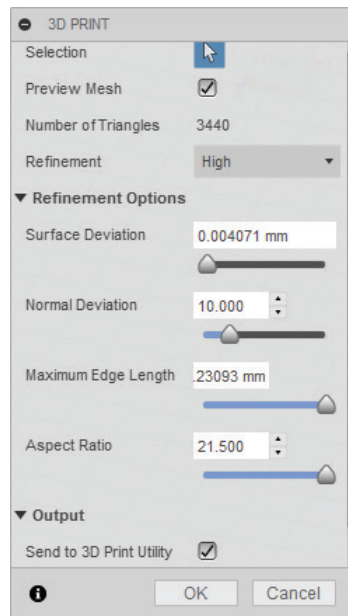

Figure-38. Refinement
- Select the desired level of resolution for printing in **Refinement** drop-down menu. There are four resolution in this drop-down. If you select the **High**, **Low**, and **Medium** command then the **Surface deviation**, **Normal deviation**, **Maximum Edge Length**, and **Aspect Ratio** parameters in the **Refinement Options** section will be adjusted automatically. (Click on the arrow before **Refinement Options** node to expand the section.) If you want to adjust these parameters manually then you need to select the **Custom** option in **Refinement** drop-down; refer to Figure-38.